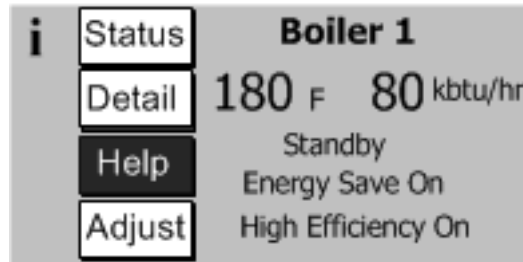

Figure 11.2c: Home Screen with Active Fault
13. If there is a problem that appears before the first try for ignition, or if the boiler fails to light after six tries for ignition, the blinking “HELP” button is highlighted on the Home screen (Figure 11.2c). Touching this “HELP” button will take the user to the Diagnostics menu where the cause of the problem can usually be found by pressing the flashing button on each successive screen.